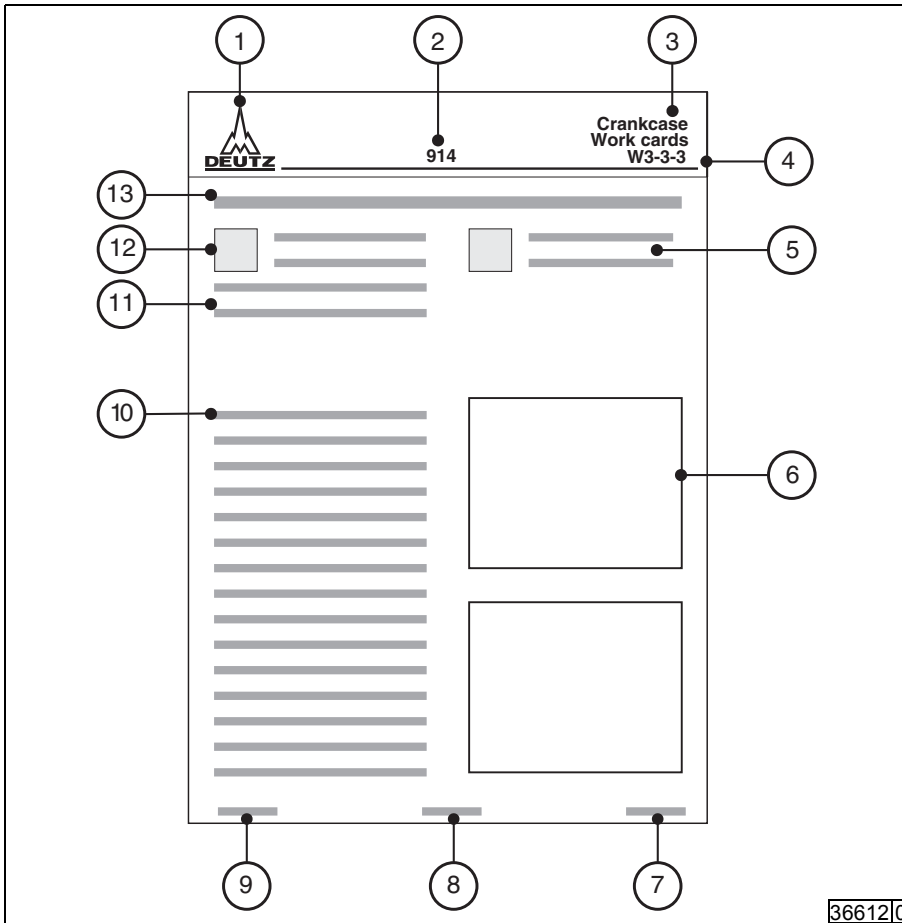

Fig. 2 Layout of work cards
- Fig. 2 shows the shows the layout of a work card.